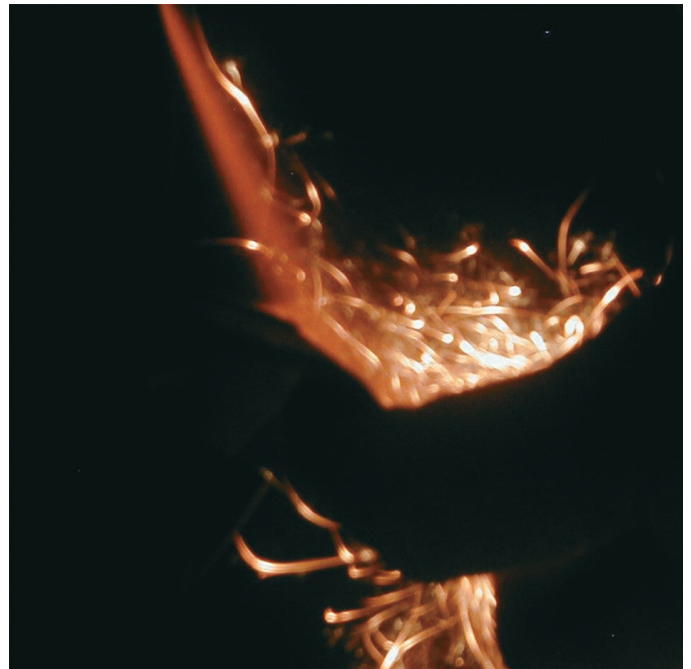

Figure 5-12 When ground, cast iron creates a very dull red spark due to the excess carbon.
- When CI is ground, the sparks are a very dull red and compact (do not form starlike bursts). See Fig. 5-12.